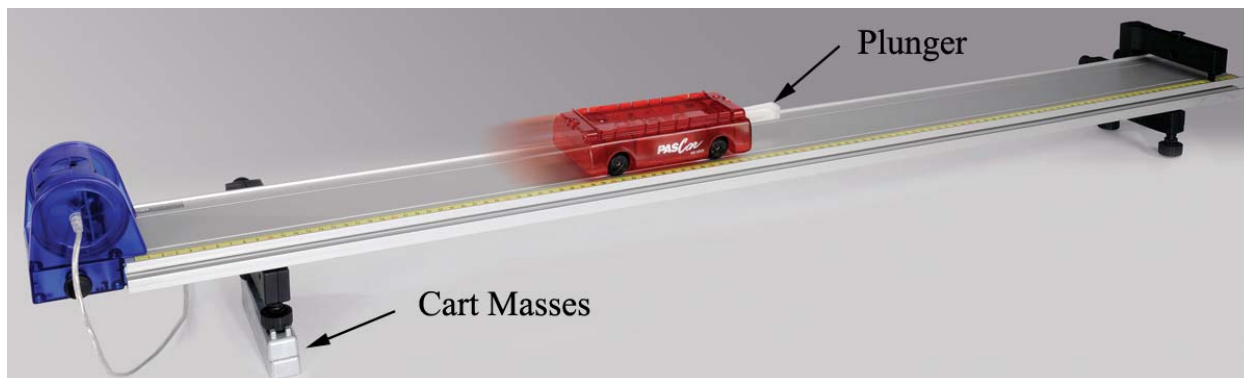

Figure 1: Cart on Incline
1. Set up the track as shown in Figure 1, including feet and endstops. Note that the Motion Sensor is on the end of the track that is the zero point for the yellow rule.